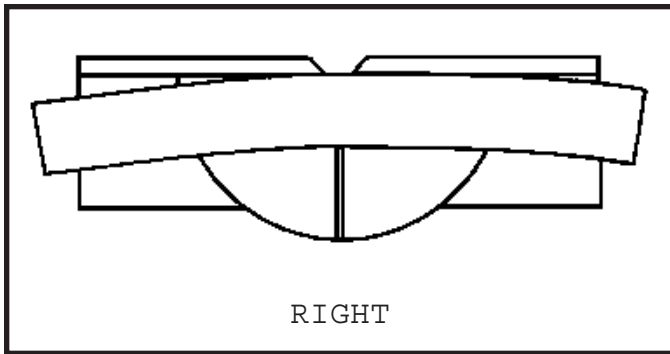

Fig. 46
1. When cutting flat pieces, first check to see if the material is bowed. If it is, make sure the material is positioned on the table as shown in Fig. 46.